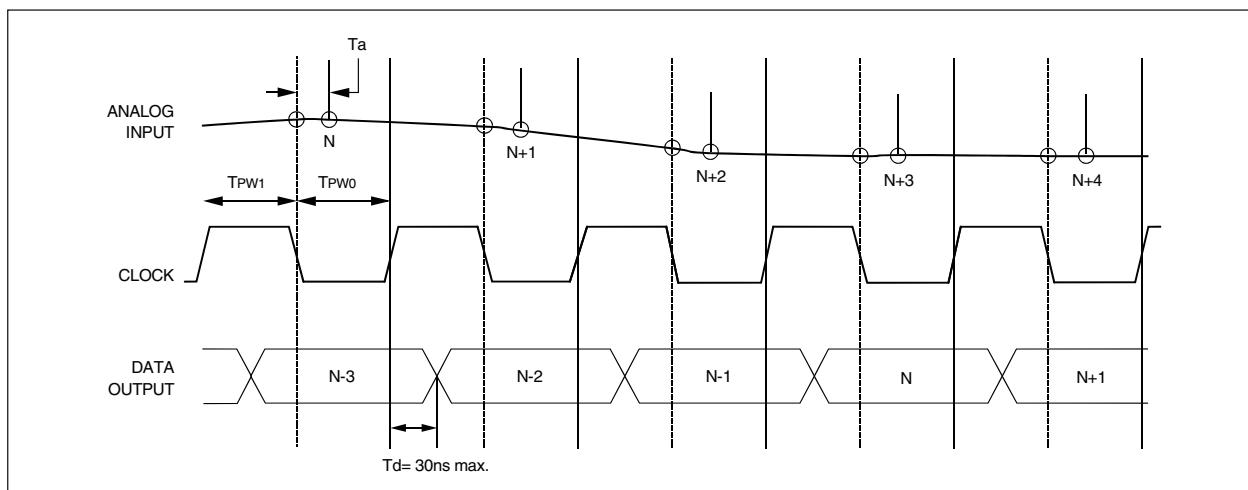

Figure 2. Timing Diagram
- Maximum 30ns (18ns typical) after the rising edge of the Nth conversion pulse, the result of the (N-3) conversion can be obtained. Data is stored firmly in an output register, such as an 74LS74, using the rising edge of a start convert pulse as a trigger. The (N-4) data is stored in this case. See the timing diagrams, Figure 2 and 4.